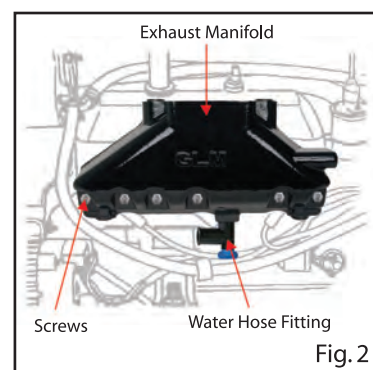

Fig. 2
2. Install the new exhaust manifolds with the new gaskets. Torque the exhaust manifold screws to 33 ft.lbs. (45Nm) for cast iron manifolds (see Fig. 2).